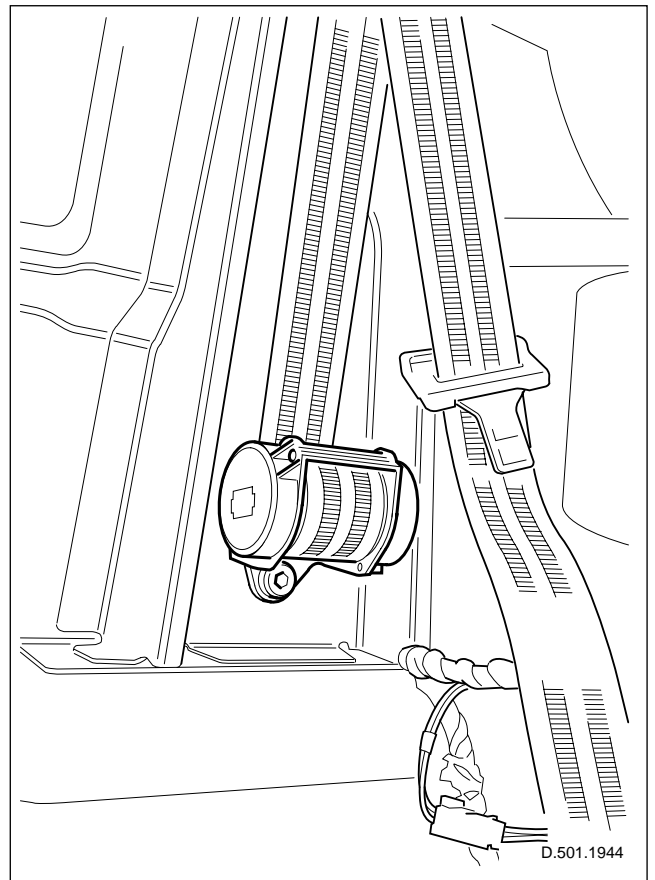

**Fig. 39 Force/webbing relationship - comfort spring mode**
The safety belt, on initial extraction of the webbing, is controlled by the retraction spring (B). Whenever the front safety belt tongue, engages with the safety belt buckle, the comfort system solenoid (C) actuates the comfort switch (D) causing the comfort spring (A) to change the force exerted on the occupant as shown in fig. 39.